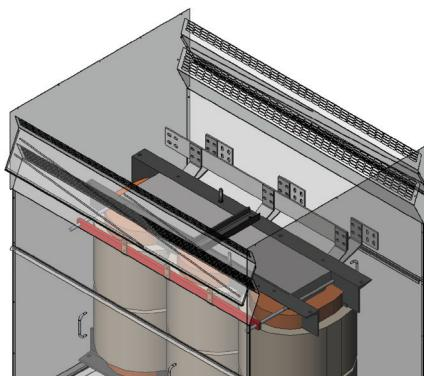
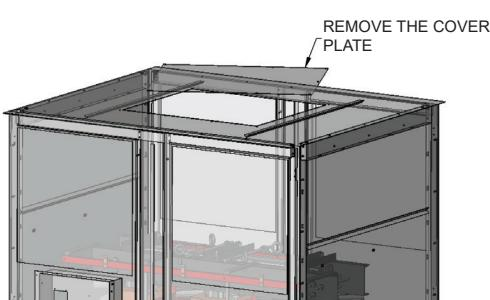

FIGURE 2
FIGURE 3
1. Remove the roof of DH type of enclosure (see figure 2) or lifting cover plate on roof of power enclosure (see figure 3).